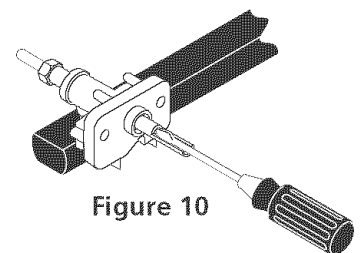

Figure 10
10.4 Adjust the "LOW" Setting of Surface Burner Valves (see Figure 10)